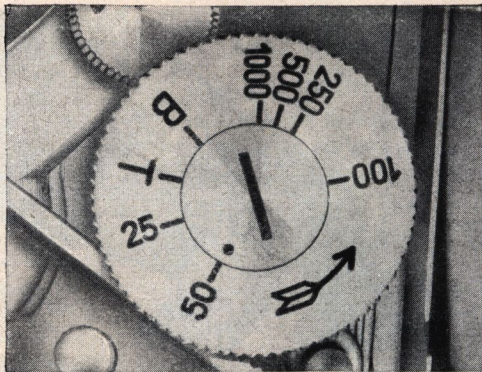

Fig. 10
The focal-plane shutter of the EXAKTA VX is remarkable by its great variety of exposures. With the fast speed knob (8) (Fig. 10) the exposures of $\frac{1}{1000}$ up to $\frac{1}{25}$ sec. are set. The figures engraved are fractions of seconds: $25 = \frac{1}{25}$, $50 = \frac{1}{50}$ sec. etc.